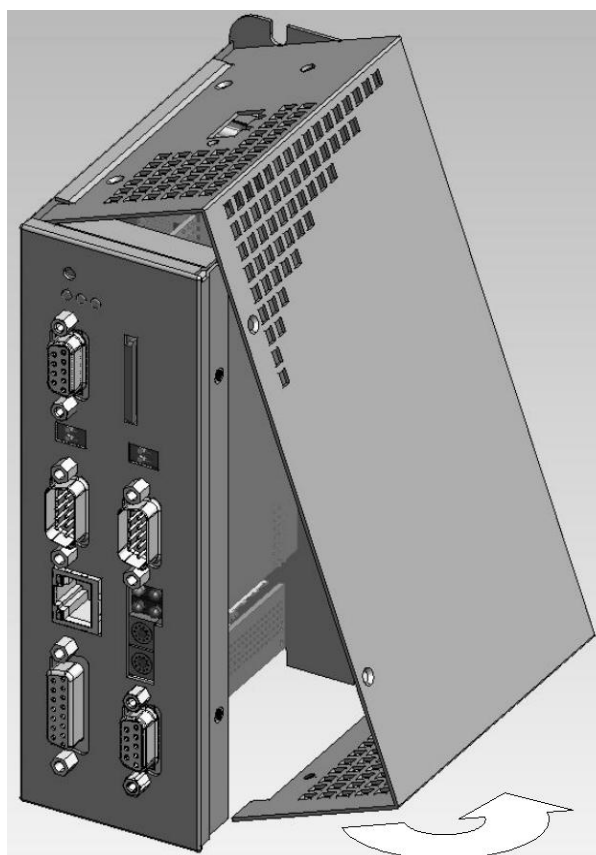

Figure 11: Lid opening
- Take out the lid as shown in Figure 11 paying attention with the power connector